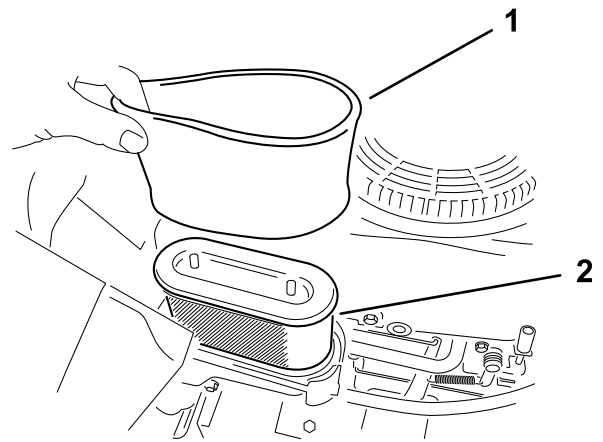

Figure 37
5. Carefully remove the foam and paper filter elements from the air-cleaner housing (Figure 37).
Note: If it is very dirty, replace the paper element (Figure 37).
1. Install the foam filter onto the paper filter (Figure 37).